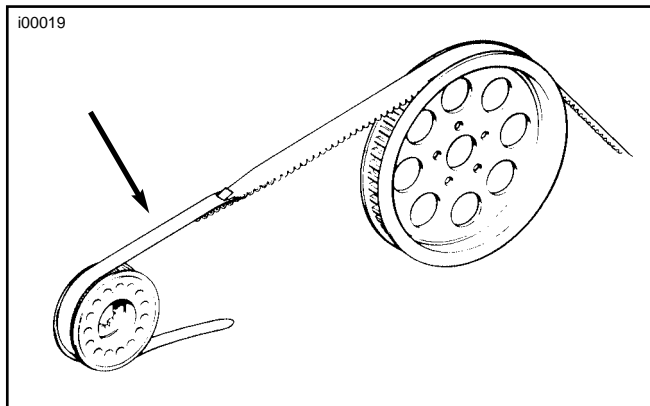

Figure 2. Emergency Belt Feeder Strip
7. See Figure 2. Install feeder strip on emergency belt.